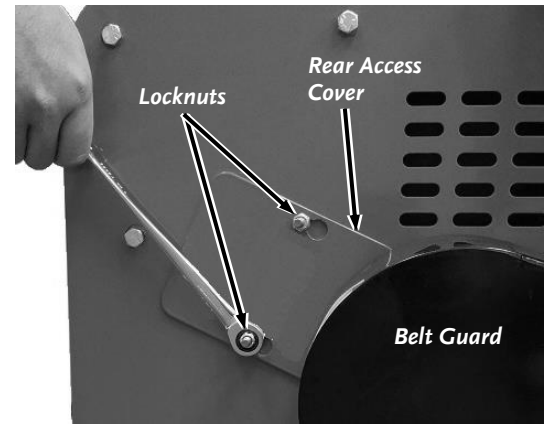

Figure 51
1. Loosen the Locknuts that secure the rear Access Cover (**Figure 51**). Move the Cover over to align the larger portion of the hole with the Locknuts and remove the Cover.